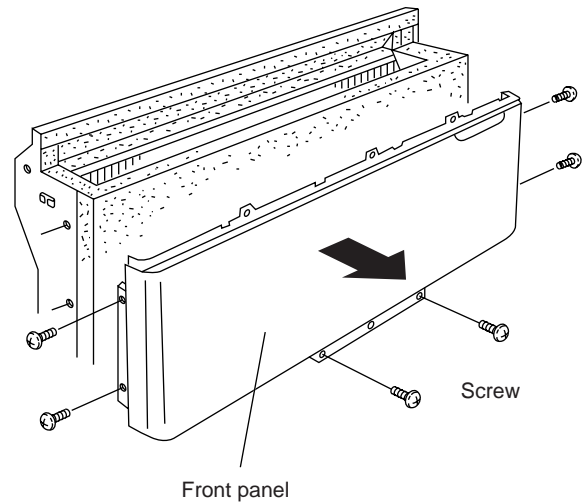

Fig.9
(3) Remove the 6 screws of the front panel and pull it toward you. (Fig. 9)